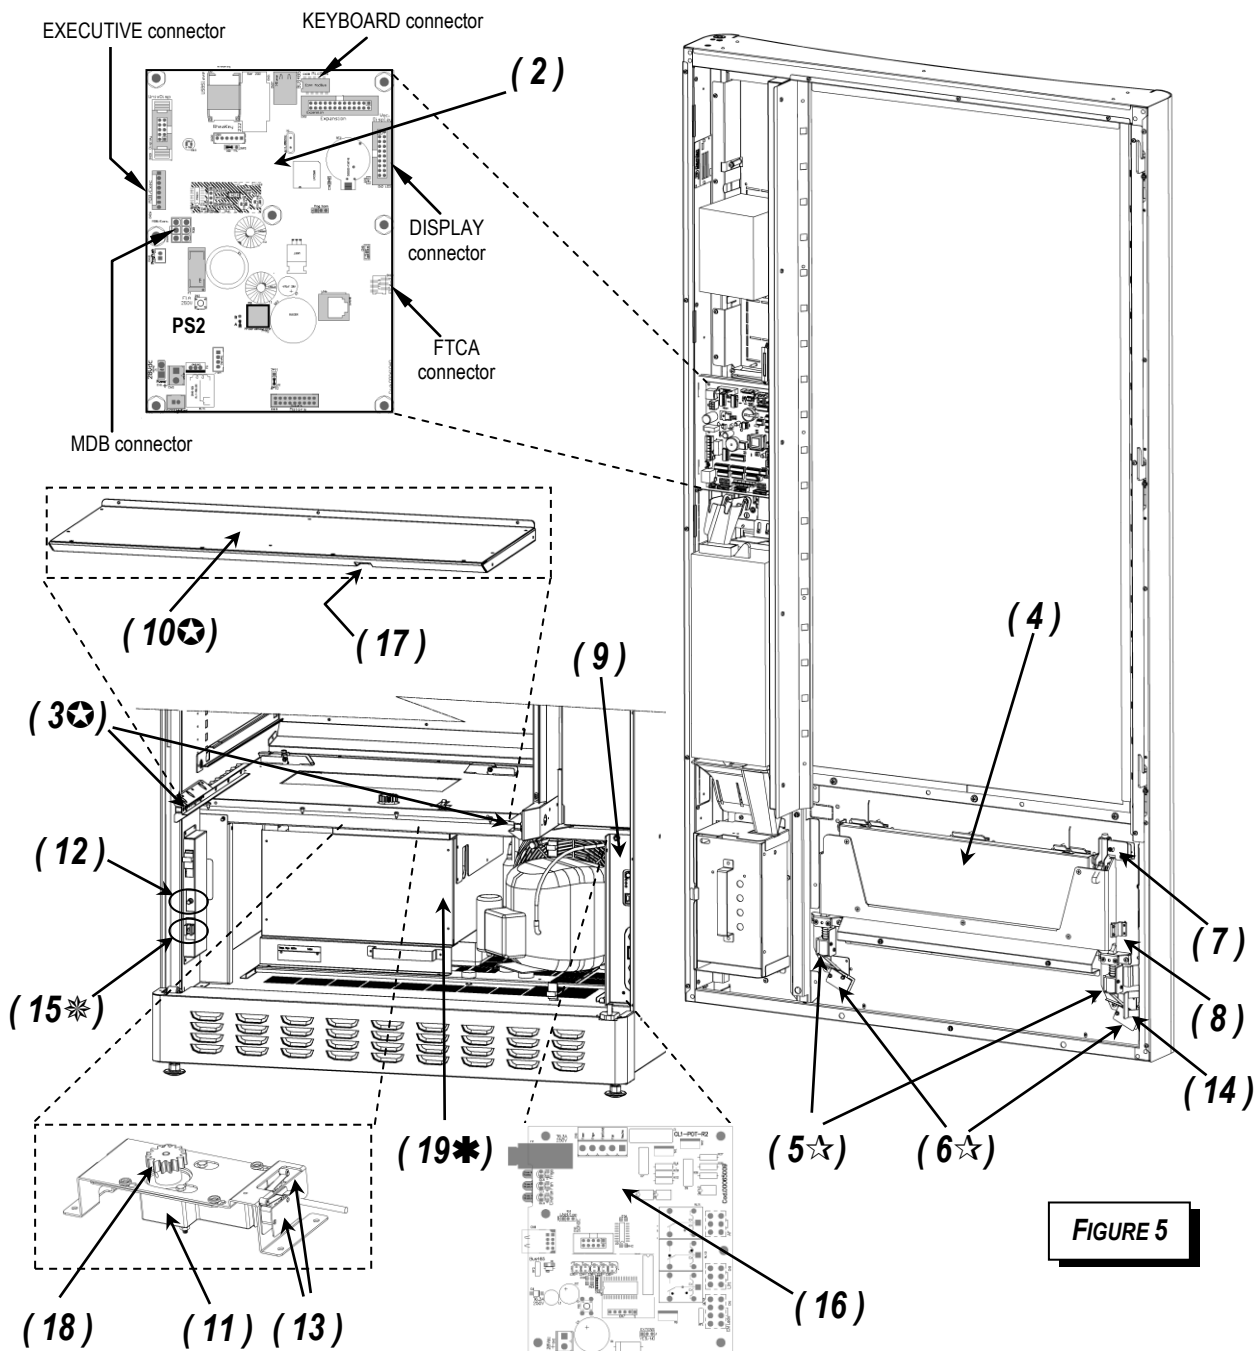

FIGURE 5
Connect the payment system to the CPU card (2) being careful to connect the cable on the proper MDB connector on the CPU card (See Figure 5).
Connect the serial connector of the payment system to the CPU card (2) using the special adapter cable, being careful to connect the adapter cable on the proper connector (See Figure 5).
See Figure 5 for the numerical references in parentheses.